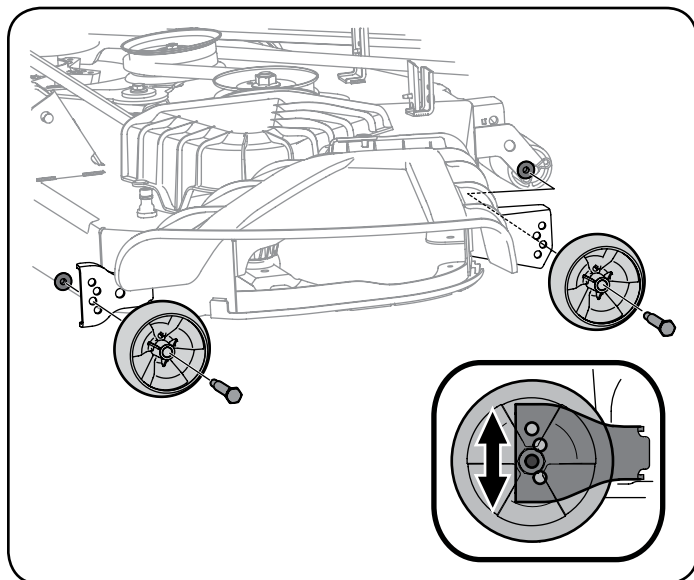

Figure 9
- b. Remove the front and rear deck wheels by removing the flange lock nuts and shoulder bolts that secure them to the deck. See “Figure 9”.